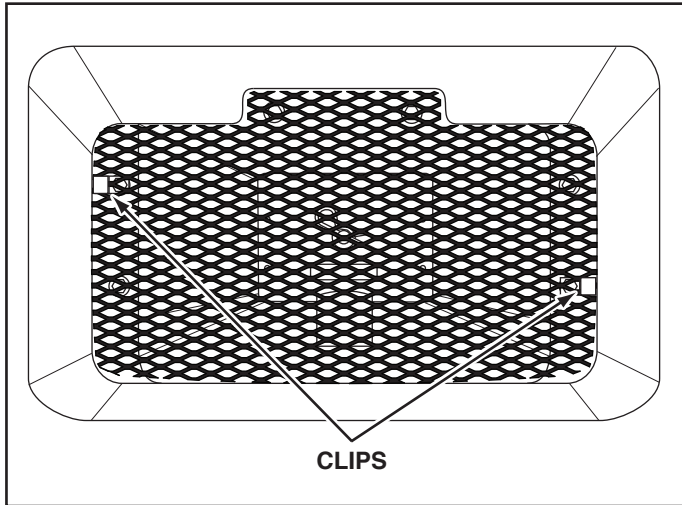

FIGURE 10
17. Place the screen down into the hopper, sliding the edge of the screen under one of the clips. Slightly bow the screen to slide the opposite side of the screen under the other clip. See figure 10.